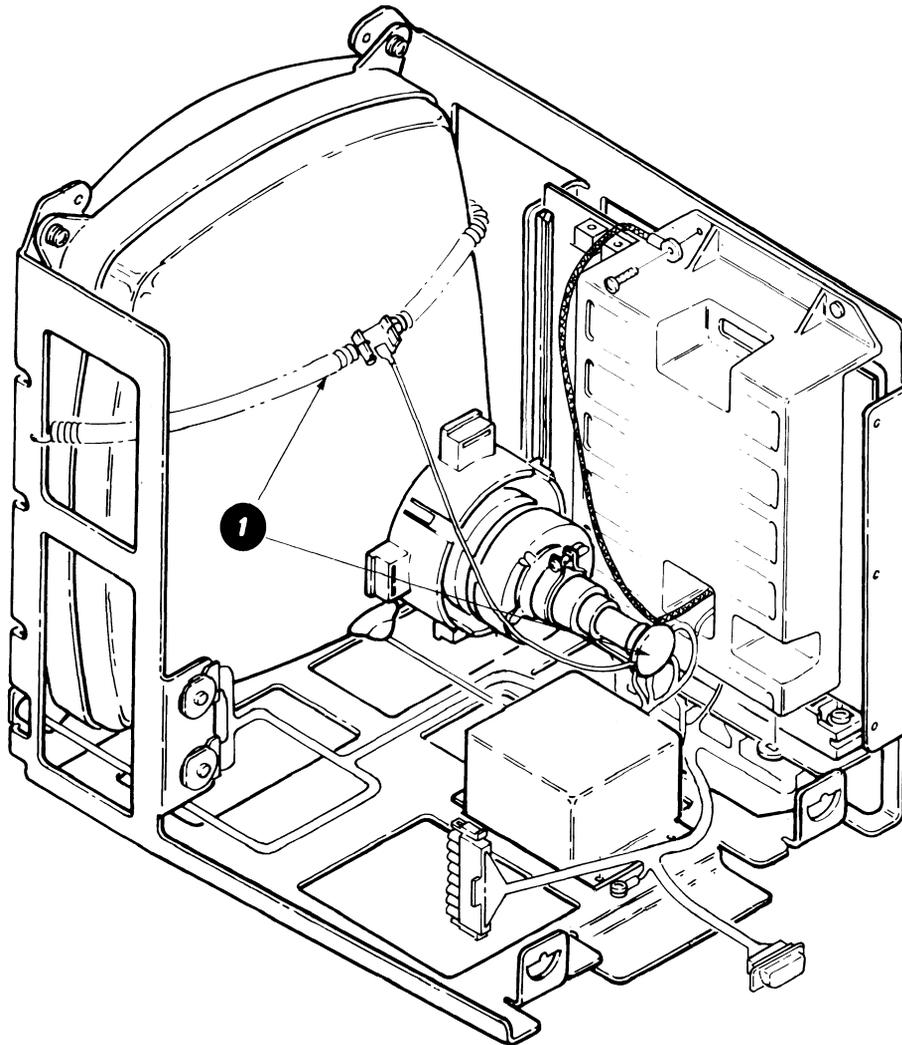

Figure 9 - CRT Ground Spring
ground spring is in place, and that it is connected to the CRT socket ❶ (see Figure 9). Do this before any type of service is performed.